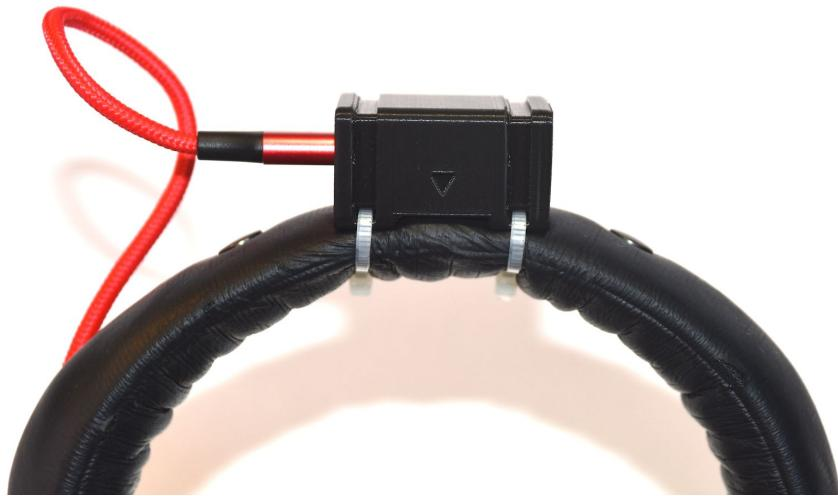

Figure 11: The HdM Headtracker Version 1
**Notice!** Before you tighten the cable ties, make sure the little arrow in the middle of the case sits directly in the middle of your headphone bracket (*Figure 11*). If this is not the case, the tracking might be offset.